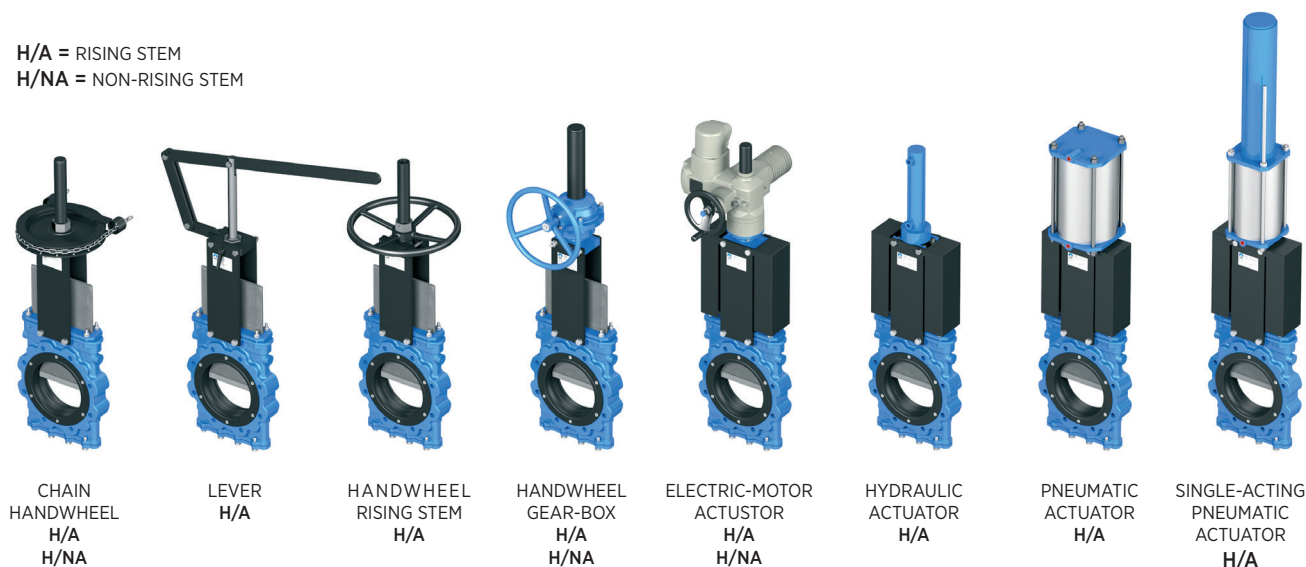

Fig. 6
3. Place the gate (2) in open position.
4. The sleeves (7) are replaced from outside the valve's body, it is a seat with two symmetrical parts, below we show a diagram of the seat (fig.6).
6. Once they have been lubricated with Vaseline, insert the new sleeves (7) of the same dimensions as those old ones.